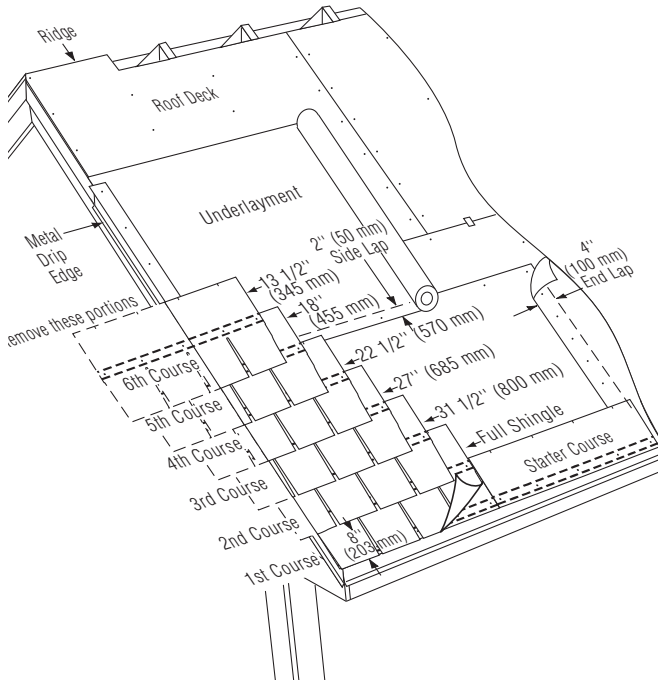

Figure 14-13: Applying the first six courses on a standard slope.
1. For the second course, cut 4½" off the left end of a full shingle, and install this cut shingle over and above the first shingle of the first course. Leave the 8" tabs of the first-course shingle exposed to the weather by aligning the lowermost edge of the second course with the top of the flared cutouts (Figure 14-13).